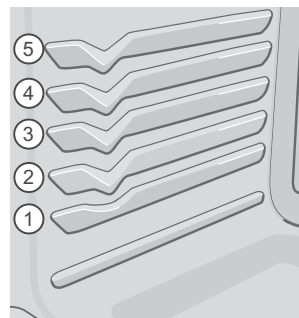

Figure 13: Rack positions
- For best results when baking cakes using two oven racks, place racks in positions 2 and 4 (See Figure 13).